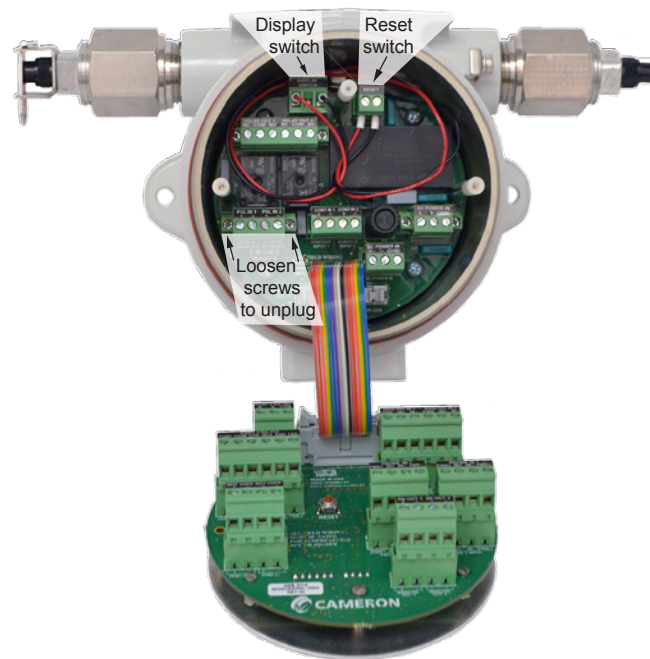

Figure 5.14—Display switch and reset switch locations
4. Lift out the top circuit assembly to access the bottom circuit assembly (Figure 5.14, Page 53).